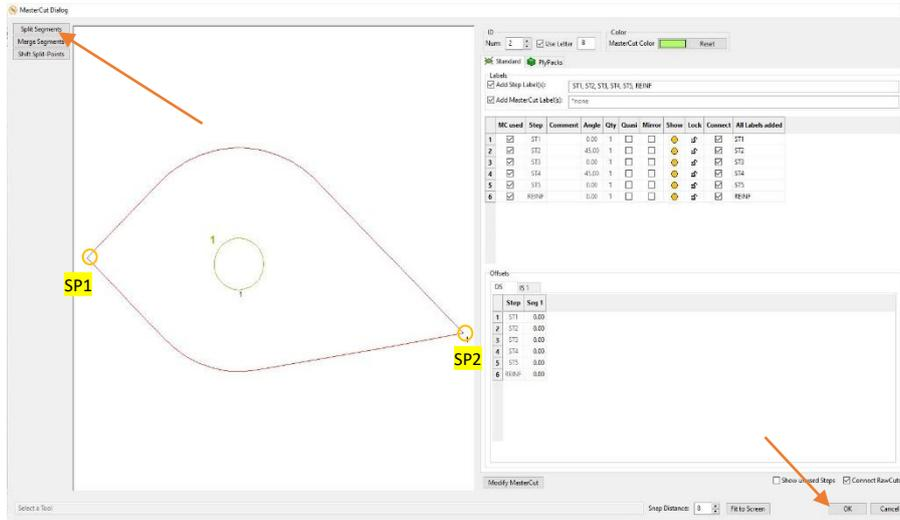

Figure 177
- c. Pick split points **SP1**, **SP2** (Figure 177).